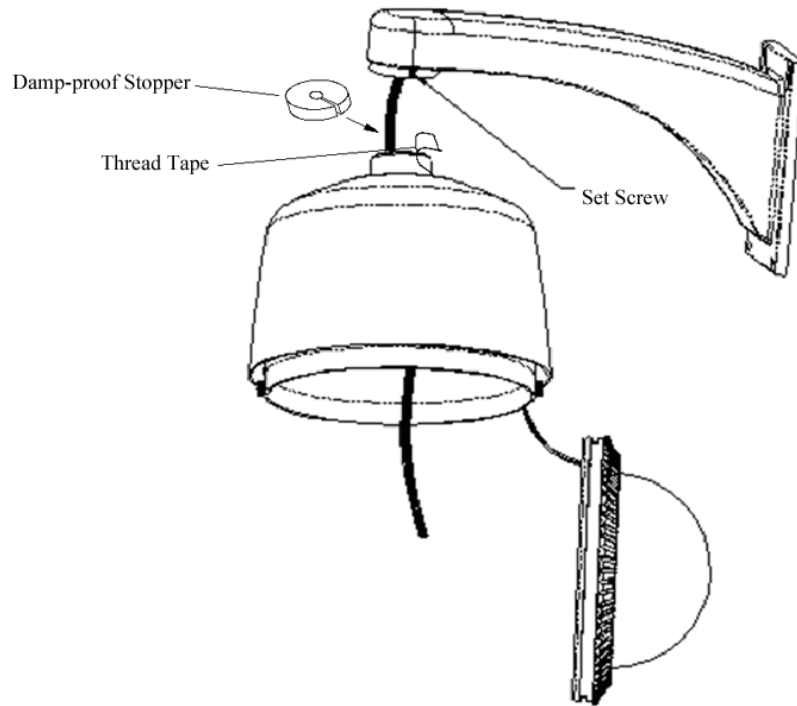

Figure 1.2.14 Attach Back Box to Mount
4. Install the back box. Open the interconnect board of the back box, and feed the cables through the top of the back box from the mount, and connect to the back board circuit board. Attach the back box to the mount and tighten the set screws (see Figure1.2.14) to secure the back box. Connect all wiring and replace the interconnect board.